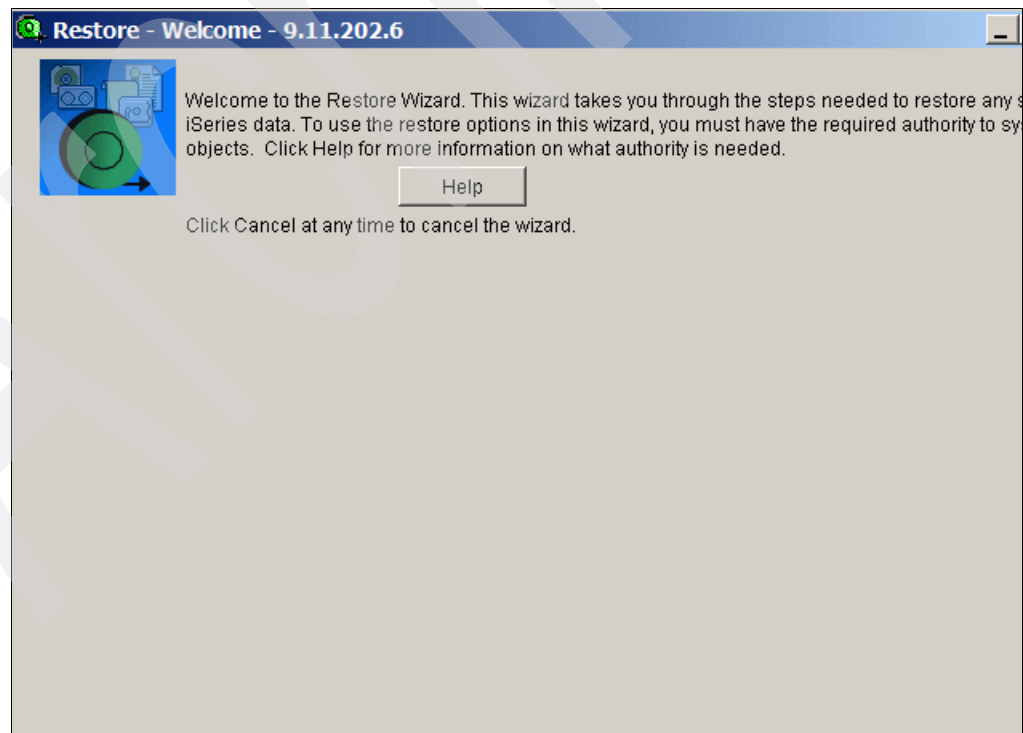

Figure 6-39 Restore Wizard Welcome window
- After selecting the item to restore, the *Restore* wizard starts. The initial wizard window is shown in Figure 6-39. On this window, click **Next**.